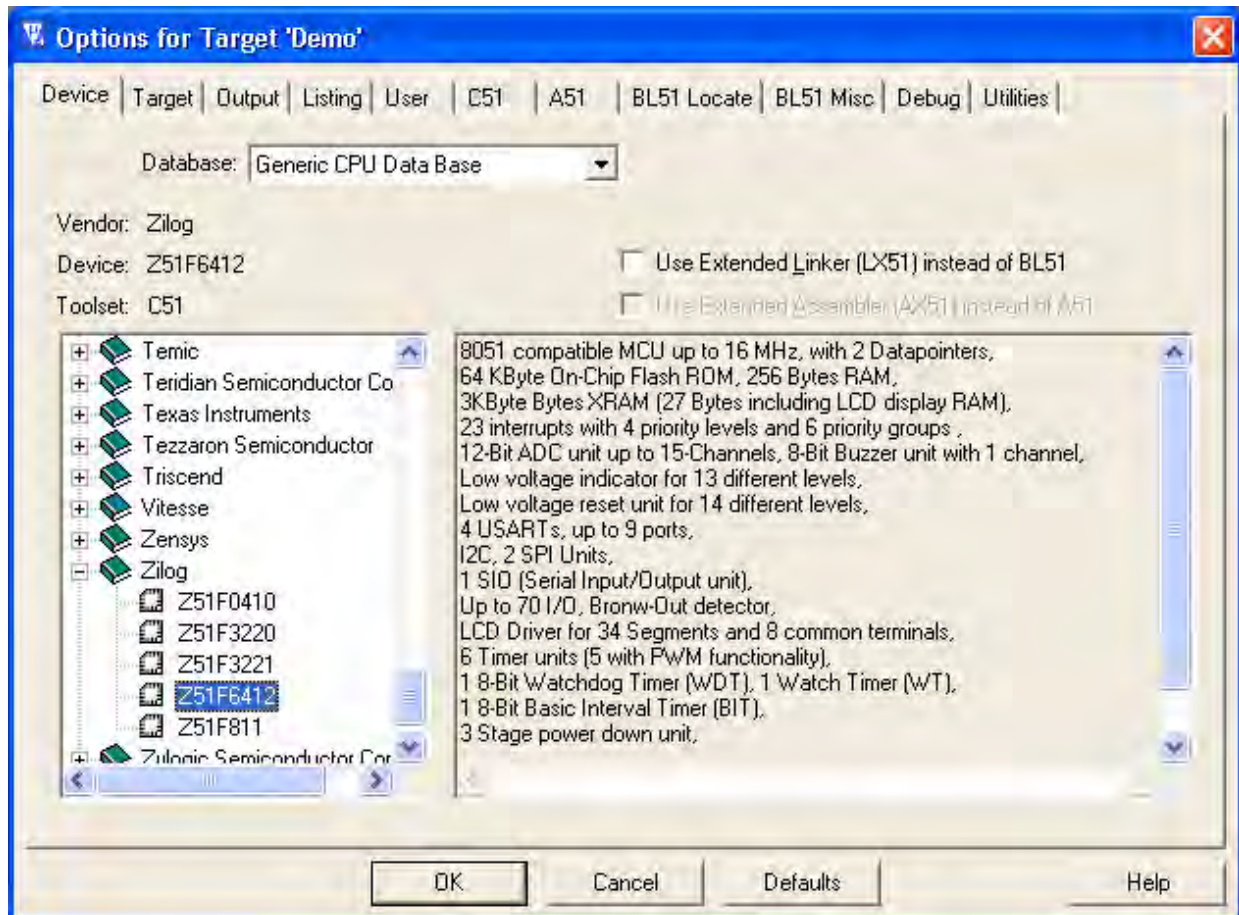

Figure 23. Selecting the Target
5. In the Options for Target 'Demo' dialog that appears, click the **Device** tab and ensure that your target is properly selected for your project, as illustrated in Figure 23.